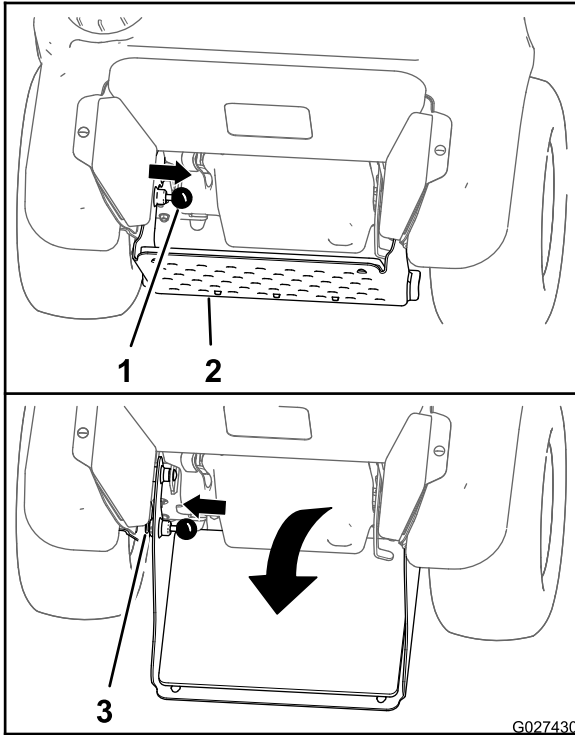

Figure 17
1. Pull the platform-lock knob inward until the pin of the platform lock clears the upper hole in the chassis (Figure 17).
2. Rotate the operator's platform down until the pin of the platform lock aligns with the lower hole in the chassis (Figure 17).
3. Move the platform-lock knob outward until the pin protrudes through the lower hole (Figure 17).
1. Pull the platform-lock knob inward until the pin clears the upper hole in the chassis (Figure 17).
2. Rotate the operator's platform up until the pin of the platform lock aligns with the upper hole in the chassis (Figure 17).
3. Move the platform-lock knob outward until the pin protrudes through the upper hole (Figure 17).